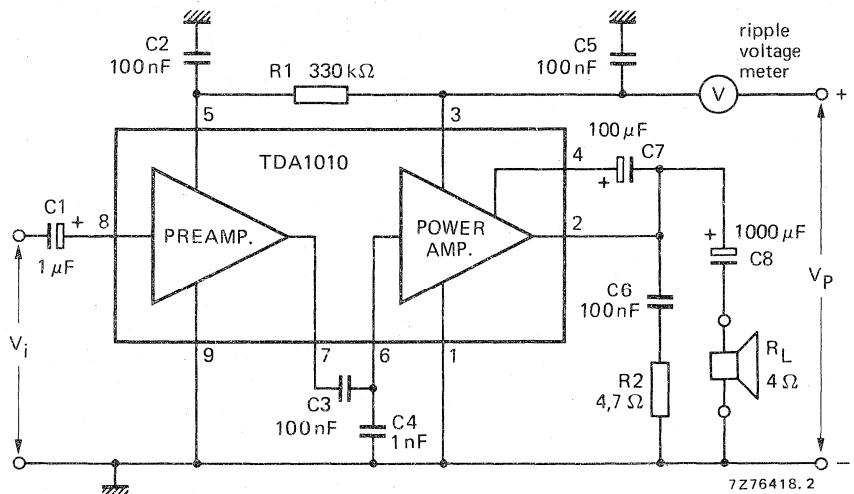

Fig. 3 Test circuit.
$T_{amb} = 25^\circ C$ ;  $V_P = 14,4$  V;  $R_L = 4 \Omega$ ;  $f = 1$  kHz unless otherwise specified; see also Fig. 3.
Fig. 4 Output power of the circuit of Fig. 3 as a function of the supply voltage with the load impedance as a parameter; typical values. Solid lines indicate the power across the load, dashed lines that available at pin 2 of the TDA1010.  $R_L = 2 \Omega$  (1) has been measured with an additional  $220 \Omega$  bootstrap resistor between pins 3 and 4. Measurements were made at  $f = 1$  kHz,  $d_{tot} = 10\%$ ,  $T_{amb} = 25$  °C.
Total harmonic distortion in the circuit of Fig. 3 as a function of the output power with the load impedance as a parameter; typical values. Solid lines indicate the power across the load, dashed lines that available at pin 2 of the TDA1010.  $R_L = 2 \Omega$  (1) has been measured with an additional  $220 \Omega$  bootstrap resistor between pins 3 and 4. Measurements were made at  $f = 1$  kHz,  $V_p = 14.4$  V.
Fig. 7 Total power dissipation (solid lines) and the efficiency (dashed lines) of the circuit of Fig. 3 as a function of the output power with the load impedance as a parameter (for  $R_L = 2\Omega$  an external bootstrap resistor of  $220\Omega$  has been used); typical values.  $V_P = 14.4$  V;  $f = 1$  kHz.